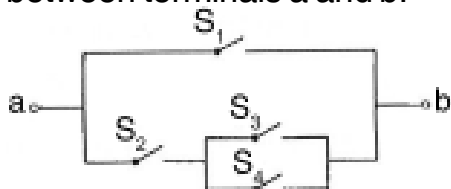

Fig. 1
- a) A manufacturer of inexpensive stereo amplifiers buys Integrated Circuits (IC) units from three different suppliers. One IC unit is used in each amplifier. 10% of the units from supplier A are bad, 5% of those from supplier B and 1% of those from supplier C are bad. The manufacturer obtains 50% of all units from A, 30% from B and 20% from C.
2. a) Consider the switching network shown in the Fig. 1. It is equally likely that a switch will or will not work. Find the probability that a closed path will exist between terminals a and b. 7